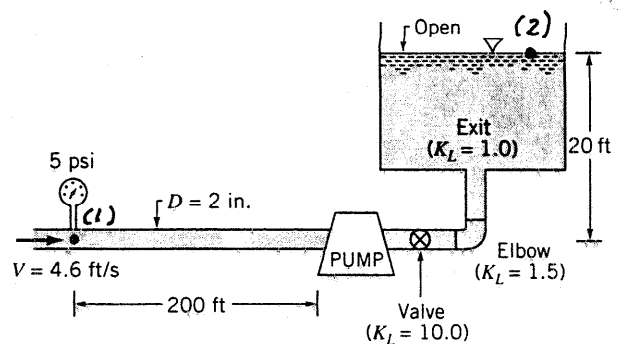

FIGURE P12.37
12.37 Fuel oil (sp. wt = 48.0 lb/ft3, viscosity = 2.0 × 10-5 lb-s/ft2) is pumped through the piping system of Fig. P12.37 with a velocity of 4.6 ft/s. The pressure 200 ft upstream from the pump is 5 psi. Pipe losses downstream from the pump are negligible, but minor losses are not (minor loss coefficients are given on the figure). (a) For a pipe diameter of 2 in. with a relative roughness  $\epsilon/D = 0.001$ , determine the head that must be added by the pump. (b) For a pump operating speed of 1750 rpm, what type of pump (radial-flow, mixed-flow, or axial-flow) would you recommend for this application?